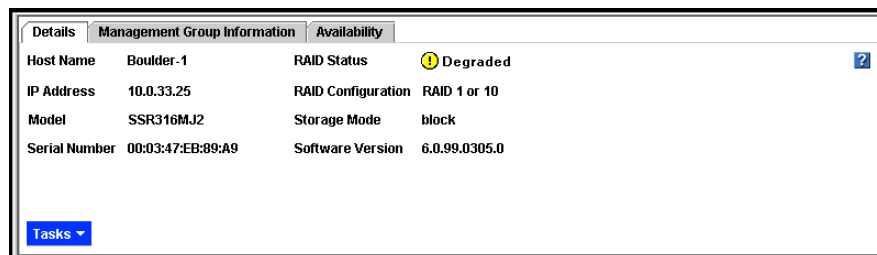

Figure 19. Icon Showing RAID is Degraded
- If RAID is **degraded**, a yellow circle displays, as shown in Figure 19. See “Monitoring RAID Status” on page 77 for information about fixing degraded RAID.